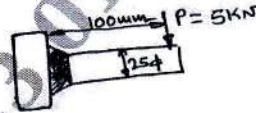

Fig. Q7 (b)
- b. A solid circular shaft 25 mm diameter is welded to a support by means of a fillet welding as shown in Fig. Q7 (b). Determine the leg dimensions of the weld if the permissible shear stress is 95 MPa. (10 Marks)